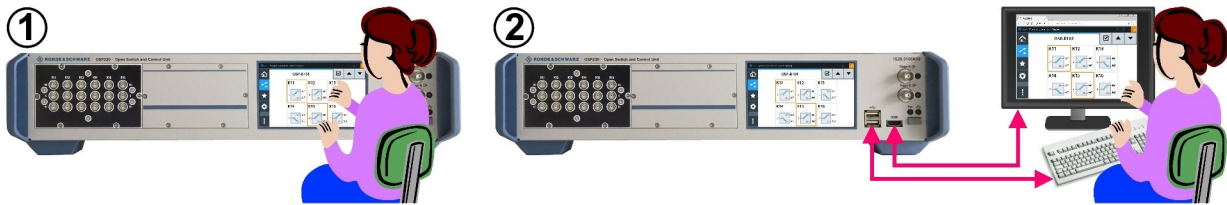
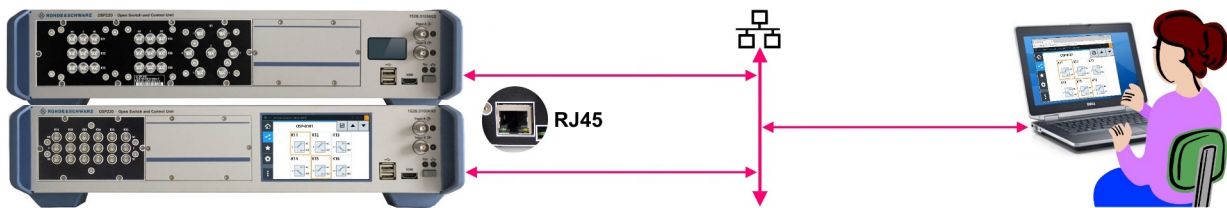
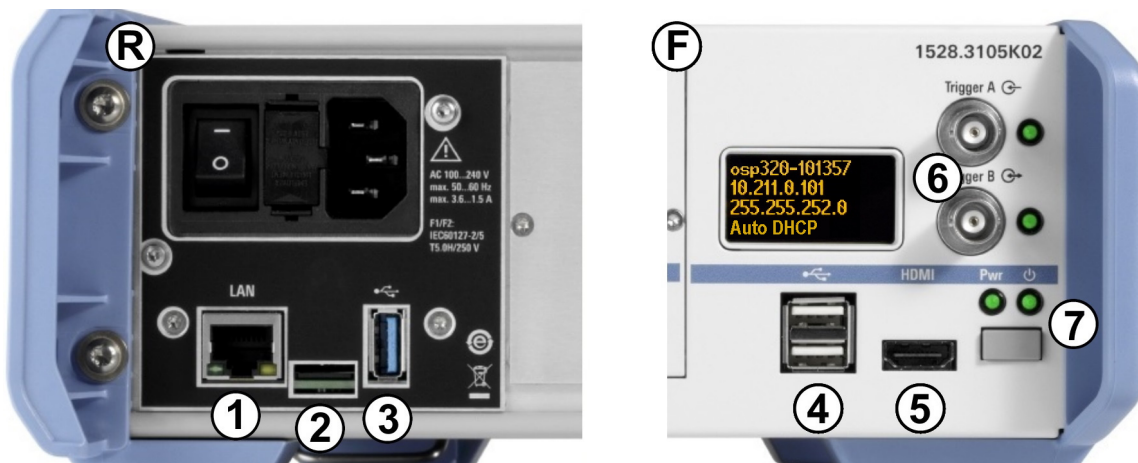

Figure 6-1: Operation by integrated touchscreen (1) or by external USB / HDMI devices (2)
Figure 6-2: Manual remote operation via "WebGUI" and LAN
Figure 6-4: Connectors and functional elements on the switch unit's rear and front panel
Instead of using the on-screen keyboard, you can enter data with a connected external keyboard (Figure 6-1) or via the user interface in a browser (Figure 6-2).
R Int = Rear interfaces, see Figure 6-4
R Int = Rear interfaces, see Figure 6-4, with an additional D-Sub 9 trigger connector
Alternatively, with any of the R&S OSP models, you can control your switch unit via an external mouse and keyboard, connected to the USB interfaces (see 4 in Figure 6-4). Optionally (especially without integrated touchscreen), you can connect an external monitor to the switch unit's HDMI interface (see 5).
For connecting external devices, see Figure 6-4.
- As on the right-hand side in Figure 6-1, connect an external monitor to the HDMI connector on the unit's front panel (labeled 5 in Figure 6-4). Also connect a mouse and keyboard to the USB connectors, labeled (4).
- Connect the switch unit to a local area network (LAN) by the RJ-45 connector on the unit's rear panel. The connector is labeled (1) in Figure 6-4. Read the unit's IP address from the status display and proceed as described in Chapter 6.1.2, "Manual remote operation", on page 37, or Chapter 6.1.3, "Remote operation by SCPI commands", on page 37.